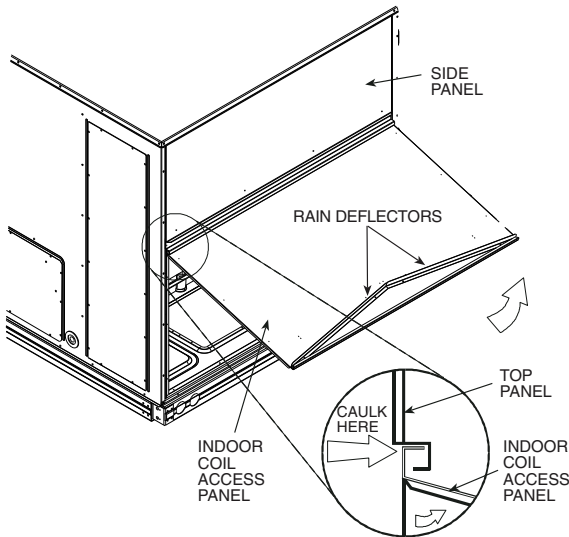

Fig. 27 — Indoor Coil Access Panel Relocation (Size 16 Shown)
1. The indoor coil access panel will be used as the top of the hood. If the panel is still attached to the unit, remove the screws along the sides and bottom of the panels. See Fig. 27.